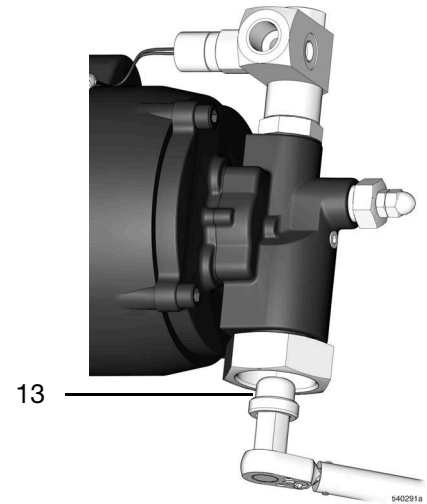

FIG. 9
7. Remove the suction filter (13) using a 3/4 in. (19 mm) hex wrench from the pump inlet (FIG. 9).
1. Place the suction filter (13) into the pump inlet assembly (12), using a 3/4 in. (19 mm) hex wrench (Torque 30 ft-lbs, 40.7 N•m)(FIG. 9).